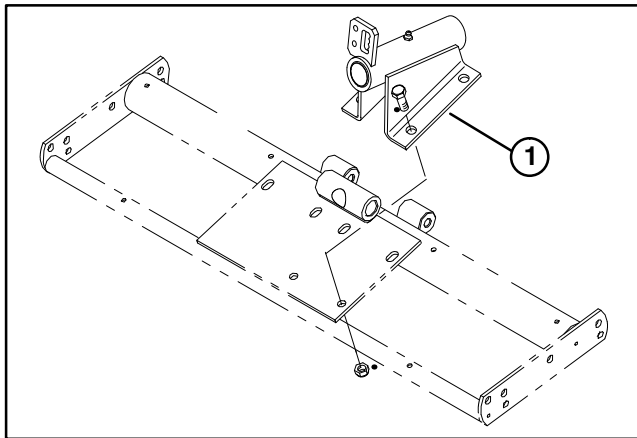

Figure 15
12. On **rear, fixed** cutting unit, remove (4) capscrews and locknuts securing rear pivot support to top of cutting unit (Fig. 15).